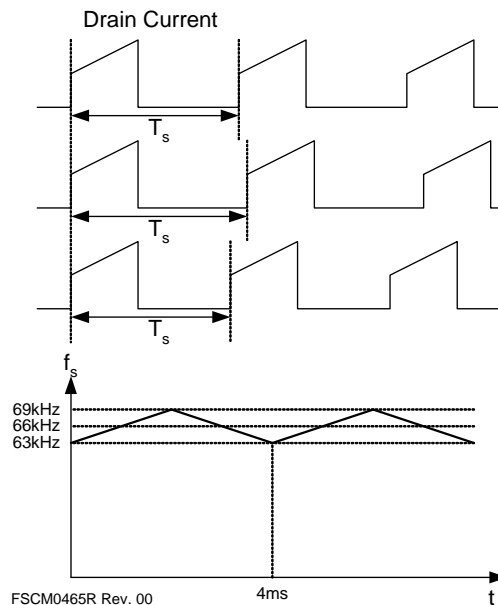

Figure 22. Frequency Modulation
4. Frequency Modulation: EMI reduction can be accomplished by modulating the switching frequency of a switched power supply. Frequency modulation can reduce EMI by spreading the energy over a wider frequency range than the bandwidth measured by the EMI test equipment. The amount of EMI reduction is directly related to the depth of the reference frequency. As can be seen in Figure 22, the frequency changes from 63KHz to 69KHz in 4ms.